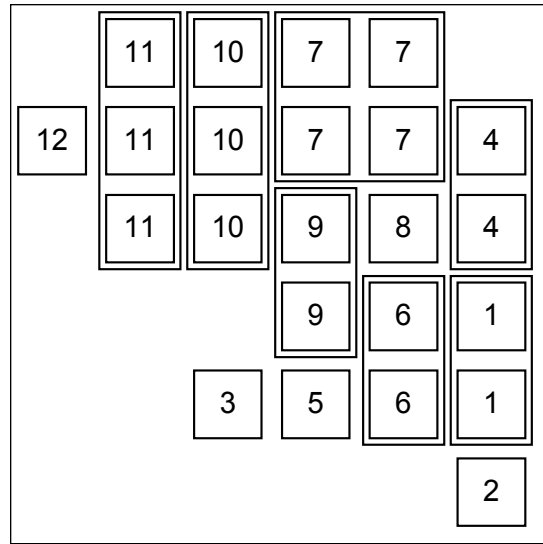
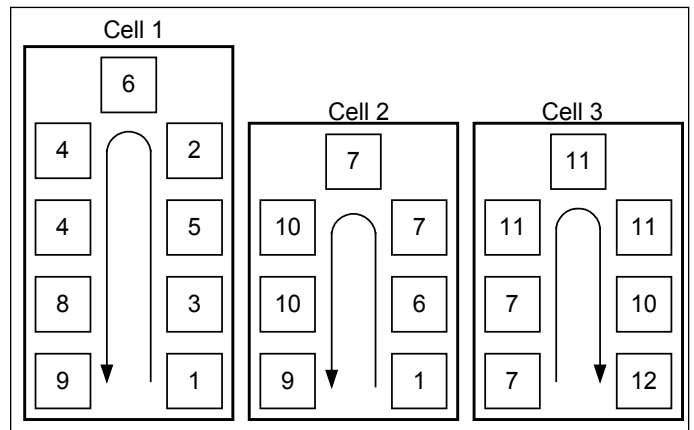
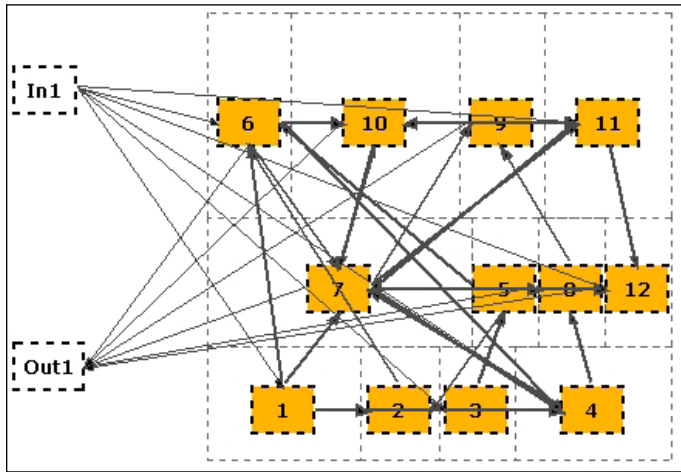

Figure 1 Functional Layout
Figure 2 Cellular Layout
Figure 4 Functional Layout
In addition, information about each piece of equipment used in the machine shop is needed (Table 2). The last two attributes of each machine—purchase price and mobility—are important because (1) if additional copies of that piece of equipment need to be purchased and placed in several cells, the capital expense should be affordable and (2) it could be exorbitantly expensive to relocate that piece of equipment. Figure 1 shows the existing functional layout for the shop. Figure 2 shows a cellular layout with three cells that was designed for the same shop. Each cell was designed to produce a subset of the 19 parts listed in Table 1. With reference to the cells shown in Figure 2, the existing machines in the departments 1, 6, 7, 9 and 10 in the Functional Layout have been distributed among the cells in the Cellular Layout. Finally, an up-to-date layout of the existing facility must be available along with Tables 1 and 2.
If you input the From-To Chart in Table 3 to a standard facility layout software like *Storm*, *Plantopt* or *Factoryflow*, it will produce a functional layout for the entire shop like the one shown in Figure 4 (similar to the one shown in Figure 1). The algorithm internal to any of these software tools will place departments with the highest traffic volume adjacent to each other. The same software tools could be used to design the layout of an individual cell or a shadowboard for tools used to assemble a variety of products.